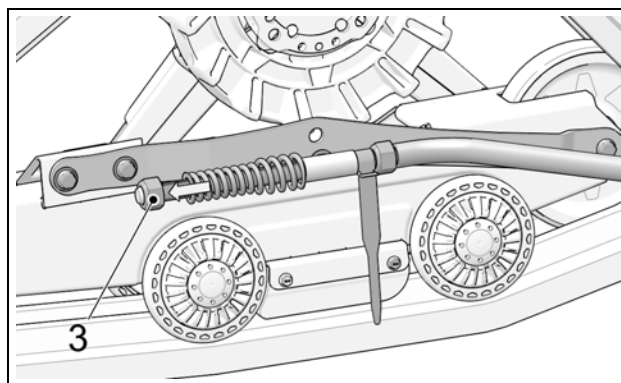

Figure 9
- Loosen the nut (3) compressing the spring of the stabilizing rod. See Figure 9.